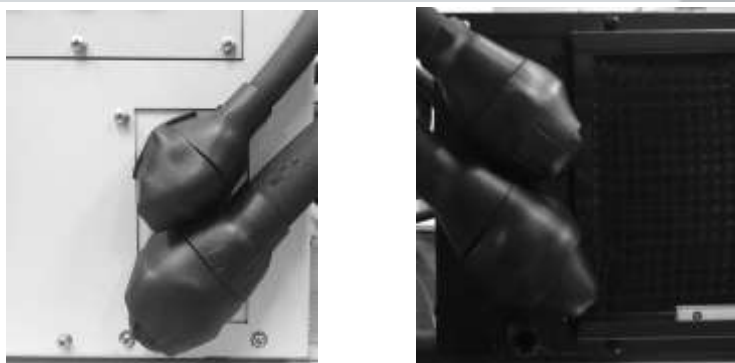

Figure 3-25 Keep copper piping and quick thread connector insulation
- Use thermal insulation material to cover quick thread connectors of both indoor and condensing units, after completing the installation and commission, as shown in Figure 3-25.